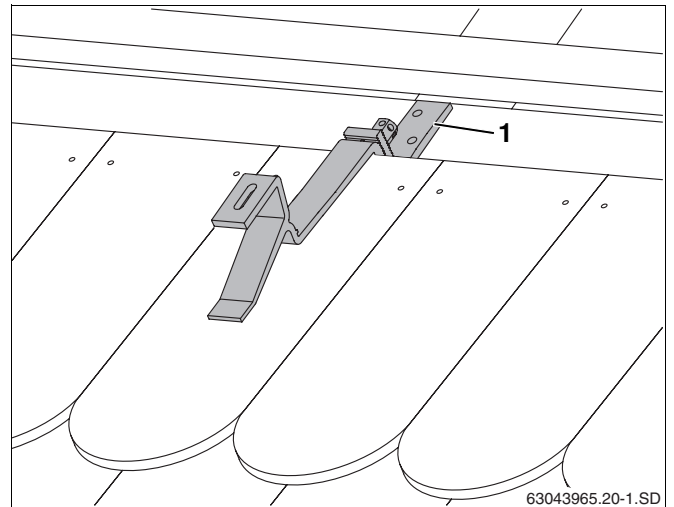

Fig. 18 Fitted roof hook
- Push the lower part of the hook down until it lies on the joist or on the board (Fig. 18, **Item 1**).